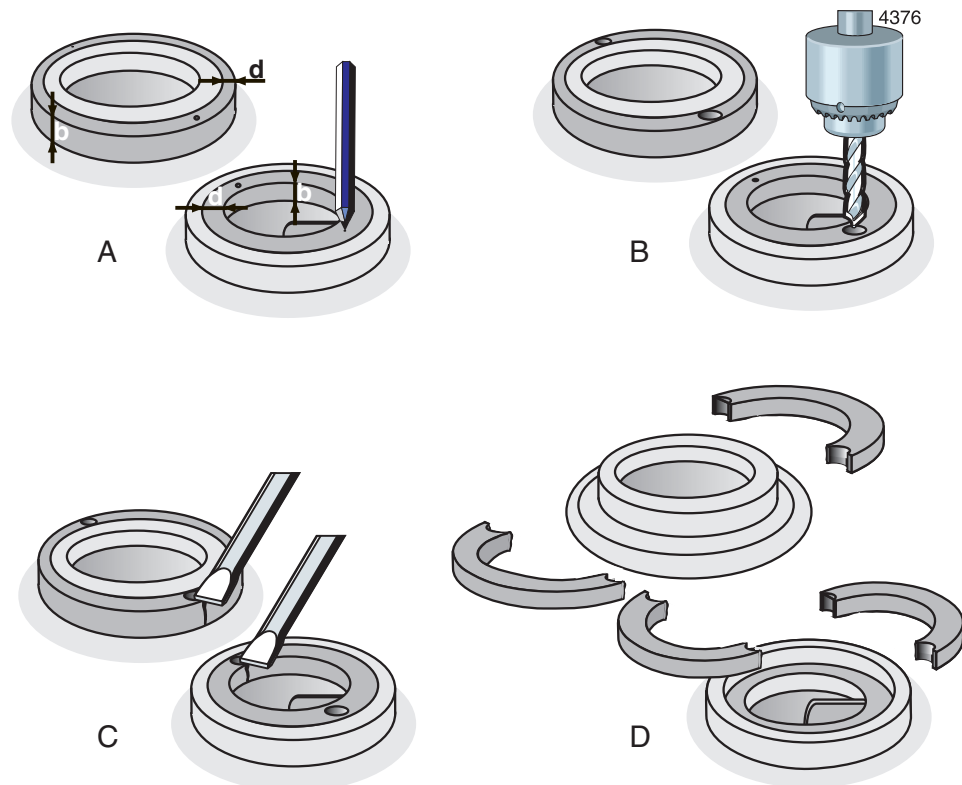

Figure 5: Removal of wear ring.
- 4 Measure the thickness (d) and the width (b) of the ring, see figure 5 A.
- 5 Make a centre hole in the middle of the edge of the ring at two opposite points, see figure 5 B.
- 6 Use a drill with a diameter just a little bit smaller than the thickness (d) of the ring and drill two holes in the ring, see figure 5 C. Don't drill deeper than the width (b) of the ring. Take care not to damage the fitting edges of the pump casing and impeller.
- 7 Use a chisel to cut the remaining part of the ring thickness. Now you can remove the ring in two parts from the pump casing, see figure 5 D.